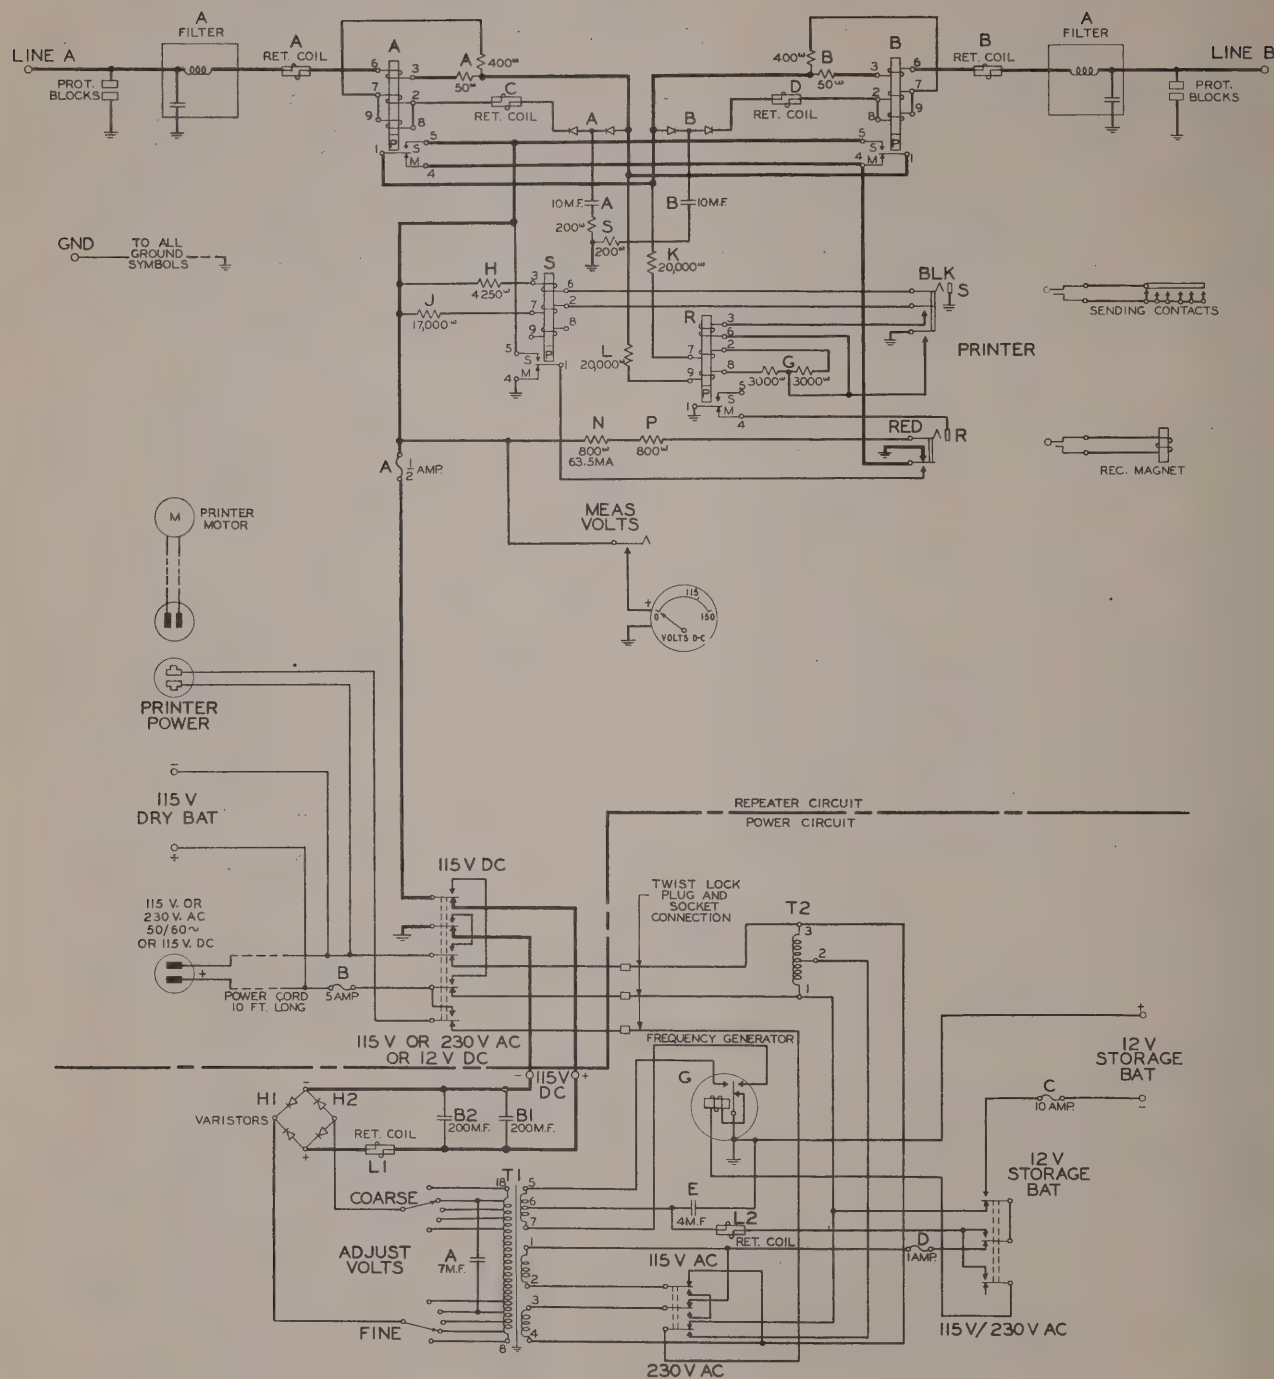

Figure 8 - Functional schematic, repeater circuit with printer and power circuit
diante) is a direct point through repeater; that is, the armature of relay A which receives from line A repeats directly to line B and the armature of relay B which receives from line B repeats directly to line A. The armatures of relay A and relay B supply ground for marking and positive 115 volts for spacing. Refer to figure 8 which is a functional schematic circuit, and to figure 15 which is a detail schematic circuit. The negative side of the power supply or the rectifier power circuit is grounded at the repeater power switch. The protector blocks prevent damage to the equipment in the case of line surges. The FILTER A reduces radiation to nearby radio-receiving equipment and the RET COIL A and the RET COIL B are telephone noise-killer coils for simplex operation. Polar relays A and B are held marking by current through their respective line windings from terminal 3 to terminal 6. The distant terminal repeater must apply a negative voltage to the line for marking.
26. RECTIFIER POWER CIRCUIT OPERATION.—a. General.—This circuit is shown schematically as part of figure 8 and in detail in figure 16. The repeater-unit power switch in the 115V DC position provides a circuit directly to the repeater circuit from the power cord and from the 115V DRY BAT terminals. In the 115V DC position, the power circuit is disconnected because it has no function when the supply is 115 volts direct current (gas-engine power unit or dry batteries).
c. Point-to-point voltages and resistance measurements.—Remove unit from the carrying case. Remove cover of rectifier power unit and the rear plate covering the terminal side of the apparatus. Test values are based on the use of Volt-ohmmeter I-166 or equivalent as a voltmeter or ohmmeter as required for the test involved. See functional schematic circuit figure 8, detail circuit figures 15 and 16, and wiring diagrams figures 17 and 18.